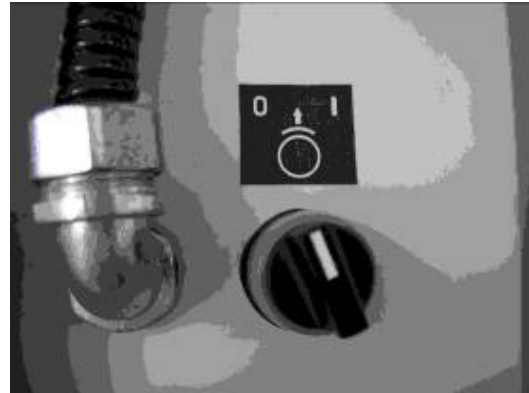

Figure 4
9. Test the rotation of the cutter head. Turn on the main power switch (see Figure 2) and then the main motor switch (figure 4). The pulley on the main motor (on the side near the motor) should rotate clockwise. If it rotates counterclockwise, stop the machine with the red stop button (Figure 4).